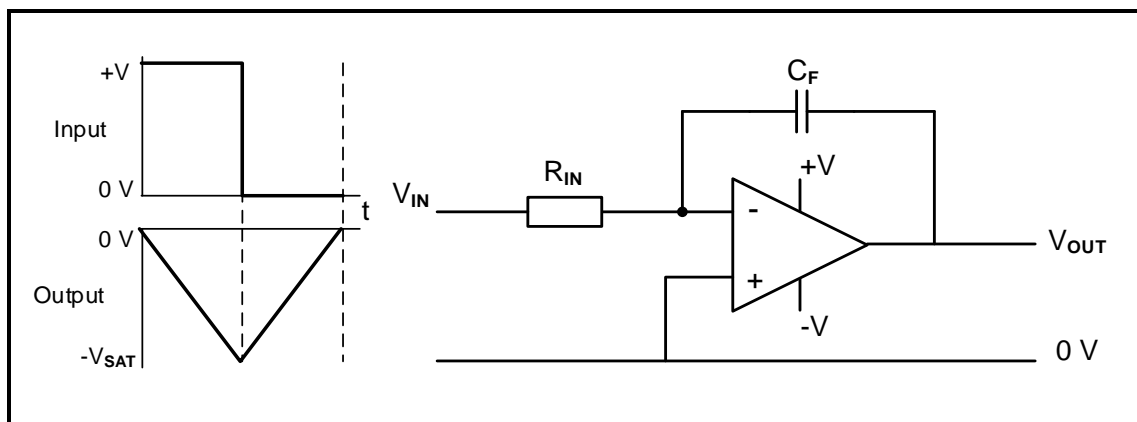

FIGURE 2.8: OP-AMP INTEGRATOR
- 2.8 FIGURE 2.8 below shows an op-amp integrator with input and output signals. Answer the questions that follow.